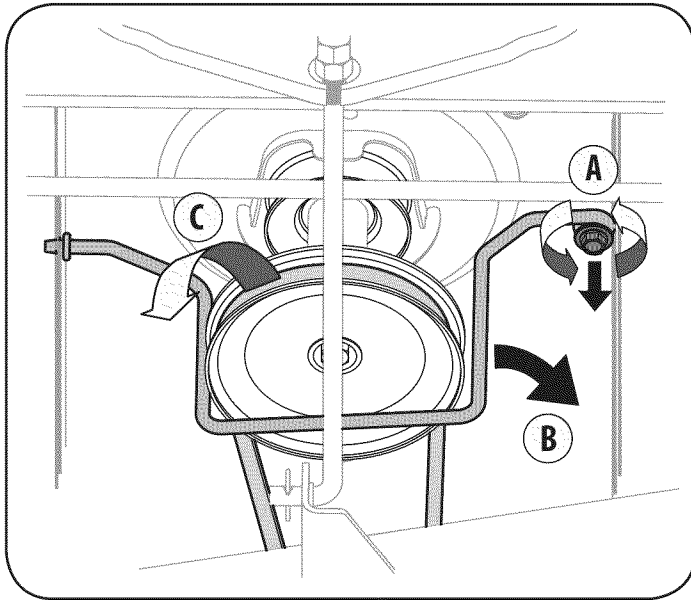

Figure 20
3. Remove the self-tapping screw (A) that secures the belt-keeper rod from around the tractor's PTO pulley, then remove the belt keeper rod (B). See Figure 20.
4. Remove the belt (C) from around the tractor's PTO pulley. See Figure 20.